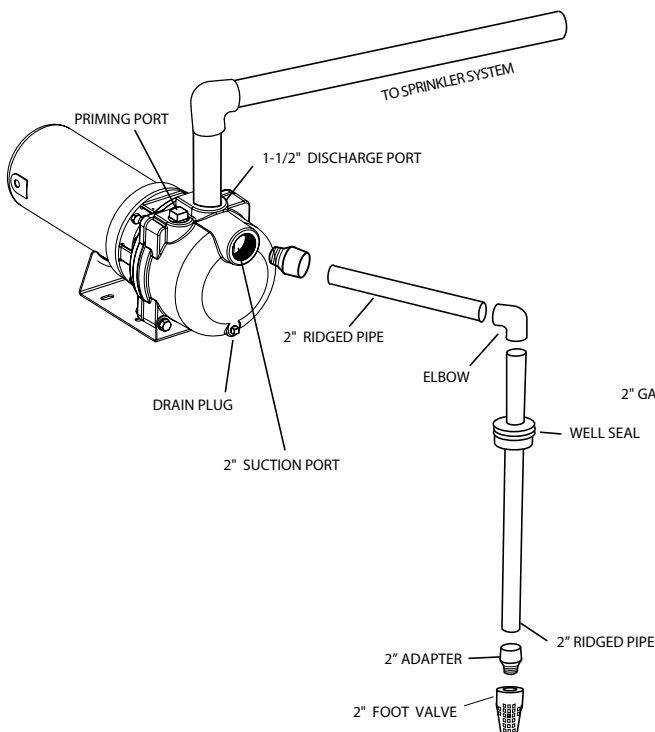

Figure 5
A. Suction Port Connection (Figure 5)